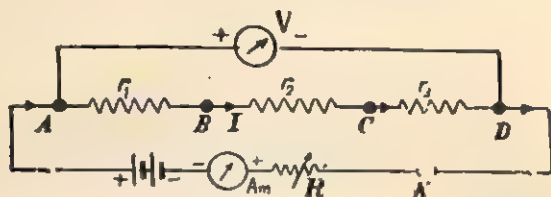

Fig. 12.19. Circuit to determine the resistance of the series combination.
(2) Connect  $r_1$ ,  $r_2$  and  $r_3$  in series and complete the circuit connections as shown in Fig. 12.19.
(3) Insert the plug key  $K$  and adjust the rheostat for a small current as read in the ammeter  $Am$ . Note the ammeter and voltmeter readings.
(4) Increase the current by adjusting the position of slider of the rheostat and record the corresponding readings of ammeter and voltmeter. Thus take four sets of observations and determine the mean value of the resistance of the series combination.